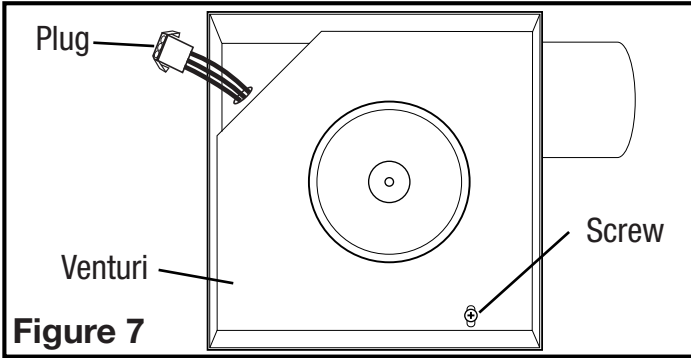
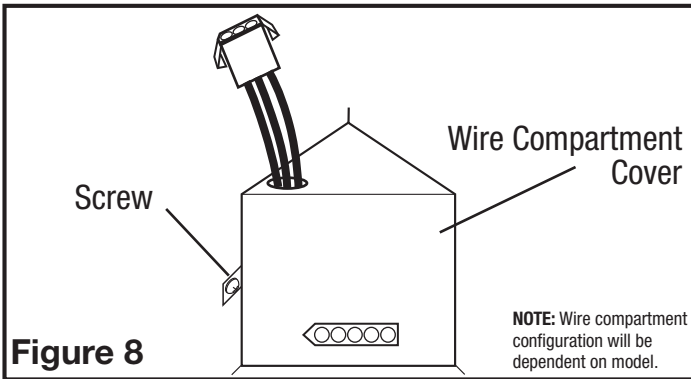

Figure 7
Figure 8
- 1b. **Internal Wire Compartment:** Remove the screw holding the blower assembly in place and lift assembly out of housing (**Figure 7**). Remove the wire compartment cover screw and place the cover in a secure place (**Figure 8**).